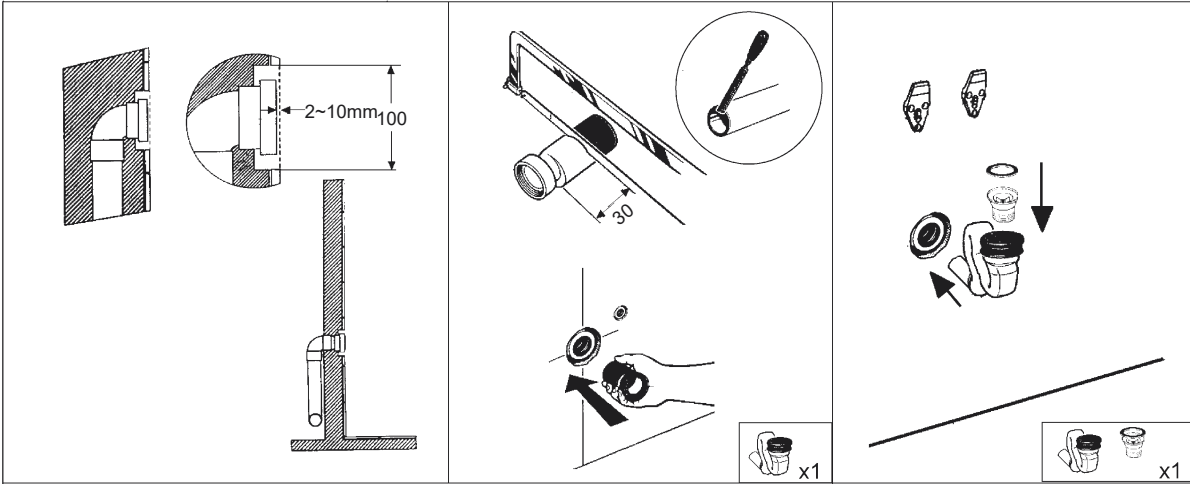

Fig.2
- Apply sealant on outlet pipe, and connect the outlet connection with outlet pipe. Insert gasket as shown in Fig.2.
Note: Fig.2 may be different for different outlet connection.